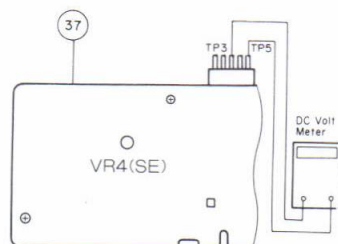

Fig. 22
1. Follow disassembly procedure (B) to remove the Bottom (14).
2. Insert the test connector into the 5P Plug (CN4) of the Control PWB Ass'y (37), and connect a DC voltmeter between TP3 and TP5 on the test connector. (Figure 22)